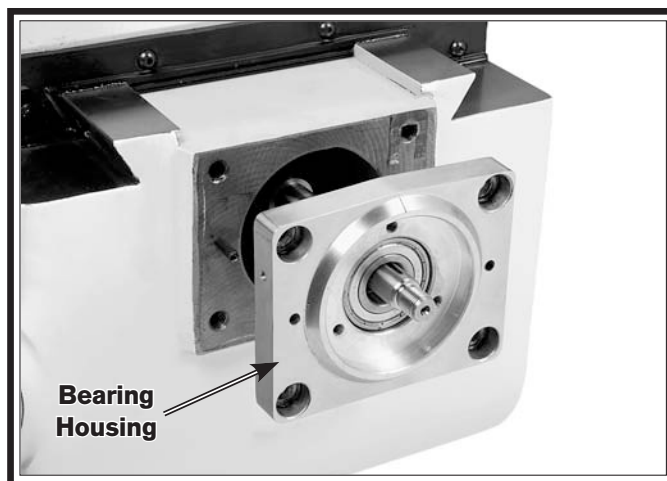

Figure 66. Removing the bearing housing from the cross leadscrew.
4. Remove the four cap screws from the bearing housing, then slide it off the leadscrew (see **Figure 66**).